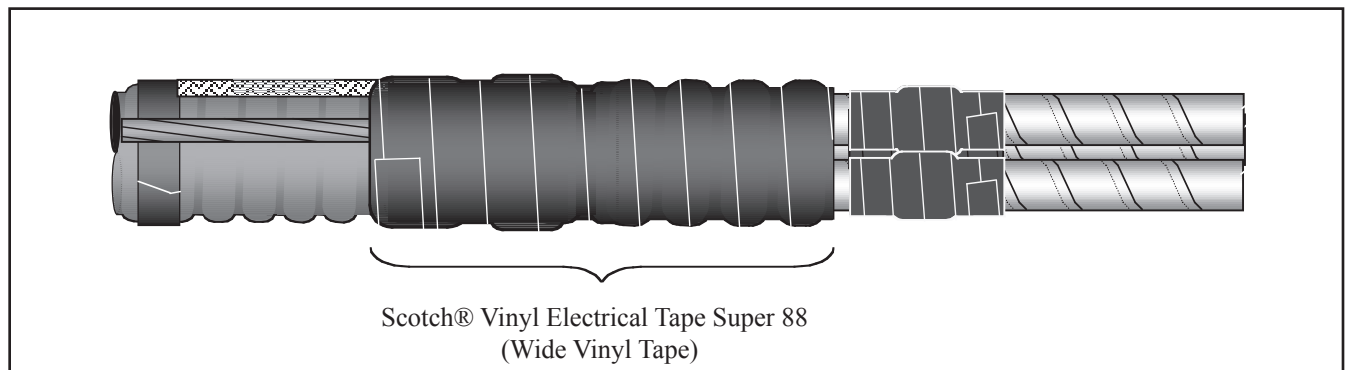

Figure 7
- 2.10 Apply two half-lapped layers of Scotch® Vinyl Electrical Tape Super 88 (wide vinyl tape) over looped ground wire area (*Figure 7*).